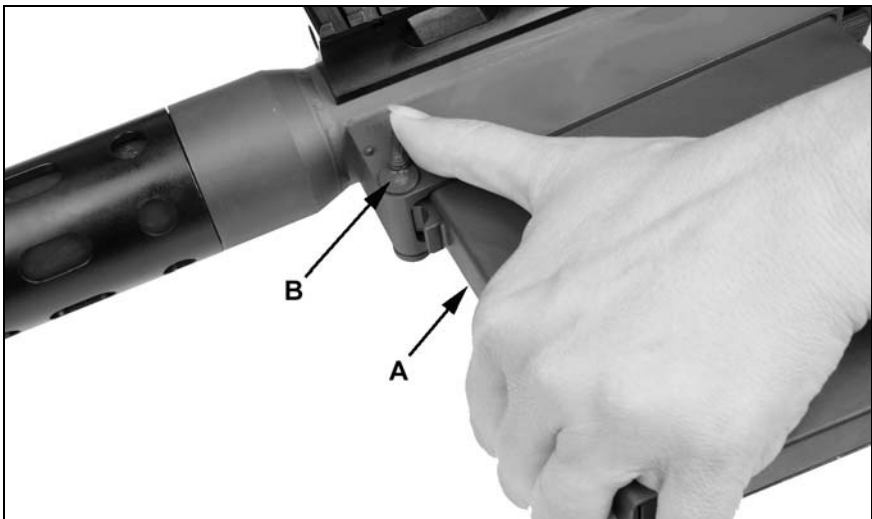

Figure 3
1. **Remove Magazine (If Equipped).** Grasp the firearm while keeping your finger off the trigger. Place your left hand on the forward end of the magazine (A) as illustrated. Press the magazine release button (B) forward to OPEN and pull the forward end of the magazine out to remove. See figure 3.